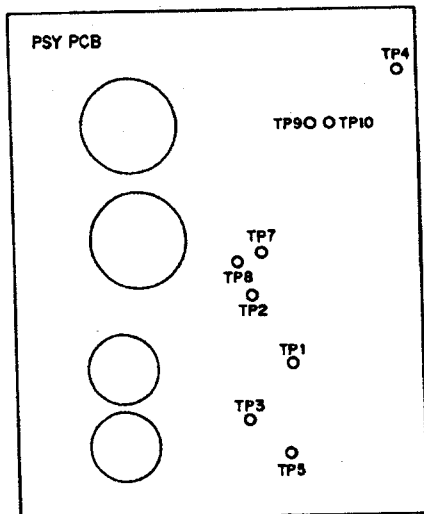

Fig. 2-10
1. Confirming supply voltages on the PSY PCB (See Fig. 2-10)